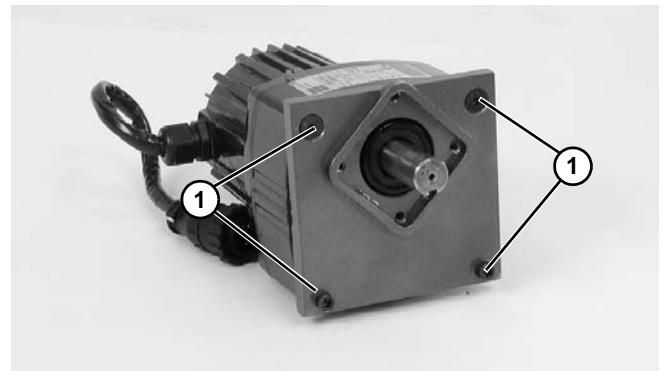

Figure 25
5. Remove four (4) adapter plate screws (**Figure 25, item 1**). Remove adapter plate.
6. Install new gearmotor to adapter plate and mounting bracket. Tighten screws (**Figure 25, item 1**) to 103 in-lb (12 Nm).